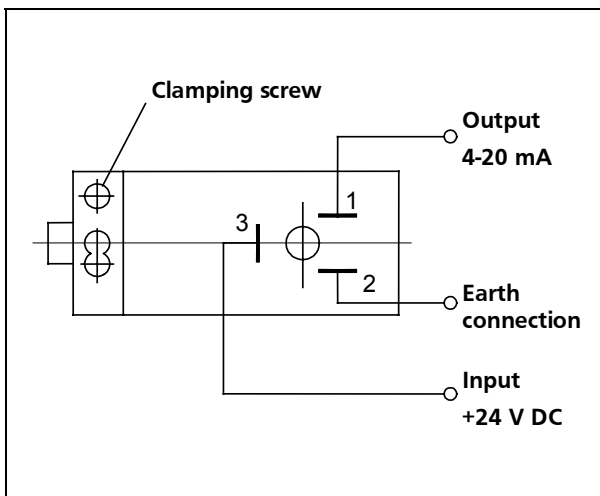

Figure 10: Connection values of the position sensor (123)
The connection values of position sensor (452) can be seen in figure 10.